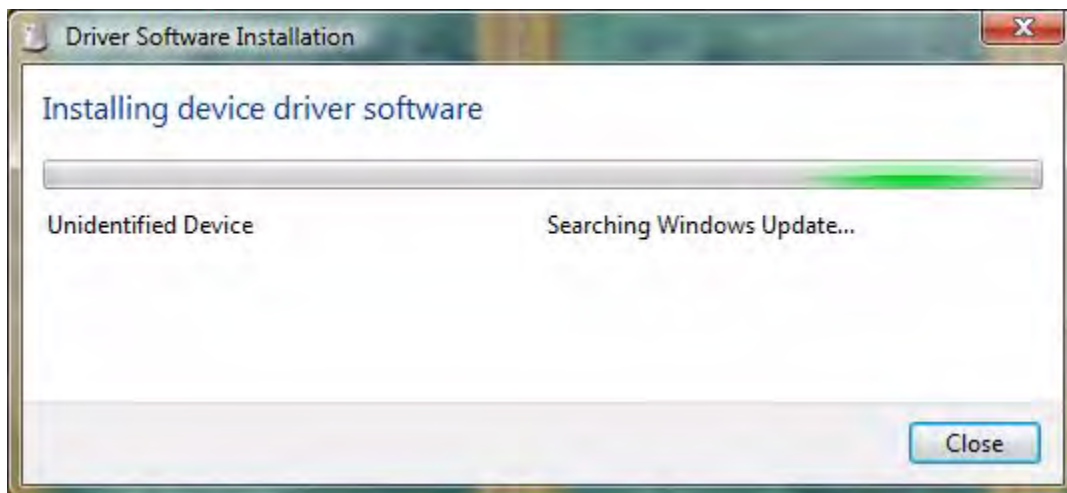
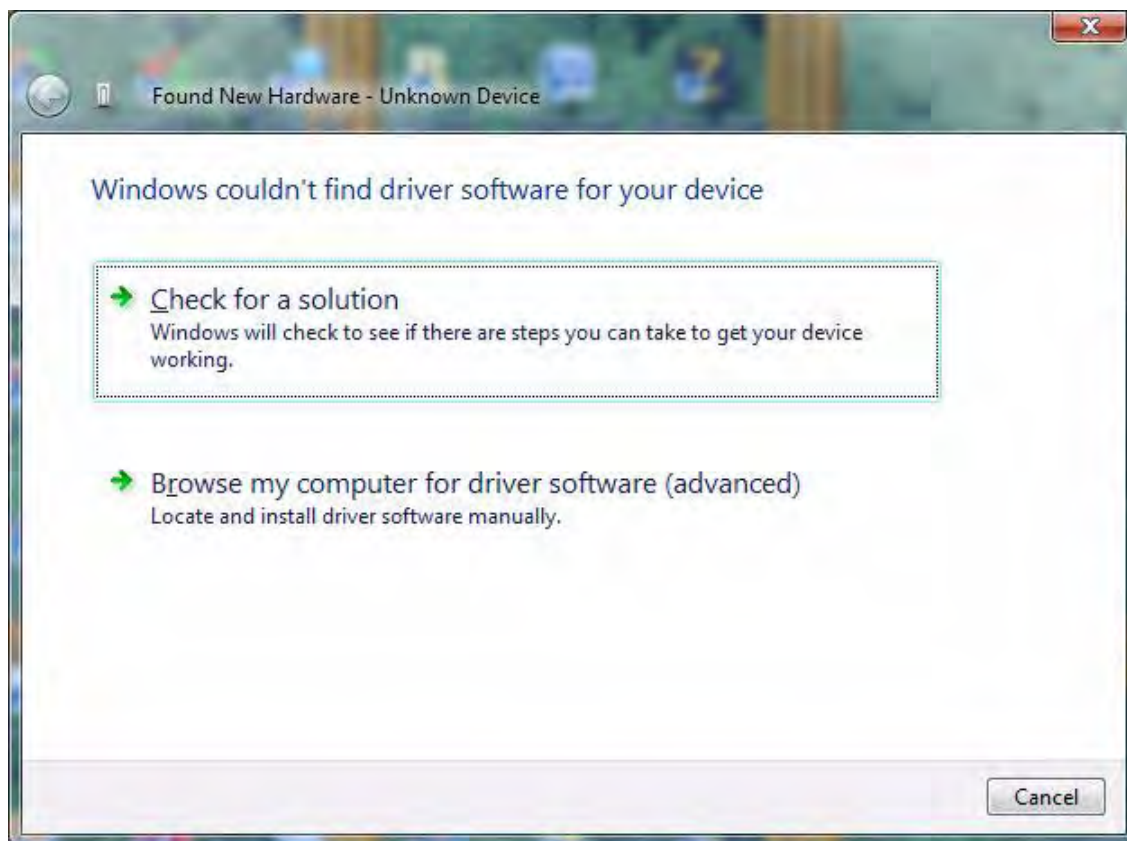

Figure 17. Install Device Driver Dialog, Windows Vista
Figure 18. Couldn't Find Driver Dialog, Windows Vista
4. When you see the Installing Device Driver dialog shown in Figure 17, do not click **Close**. Instead, wait until you see the dialog that follows, which is shown in Figure 18.